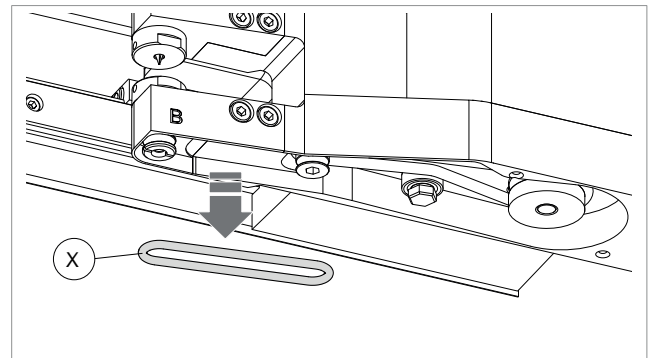
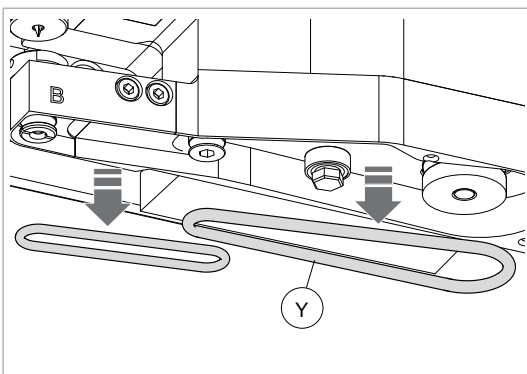

Fig. 159
Fig. 160
- 5) Remove the belt to be replaced (Fig. 159 or Fig. 160).